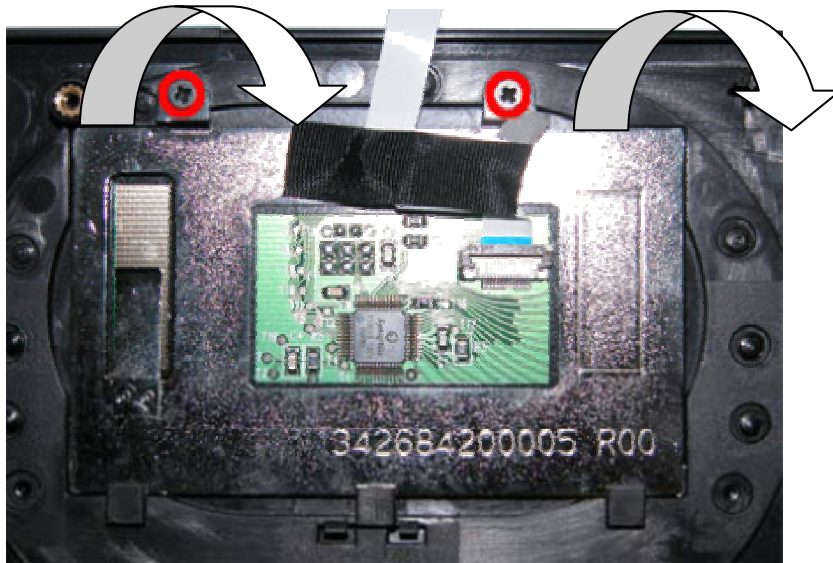

Fig. 35 Touch Pad
1. Unscrew the screws on the Touch Pad assembly as shown in Fig. 35 and remove the touch pad assembly from the Top cover.